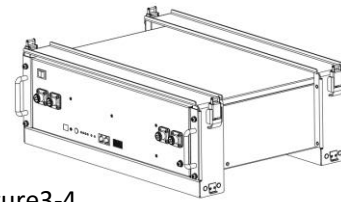

Figure3-4
- Place the B3 and brackets as shown in the figure3-4, and insert the B3 into the brackets. Use 4 screws to fix the module on the front bracket.